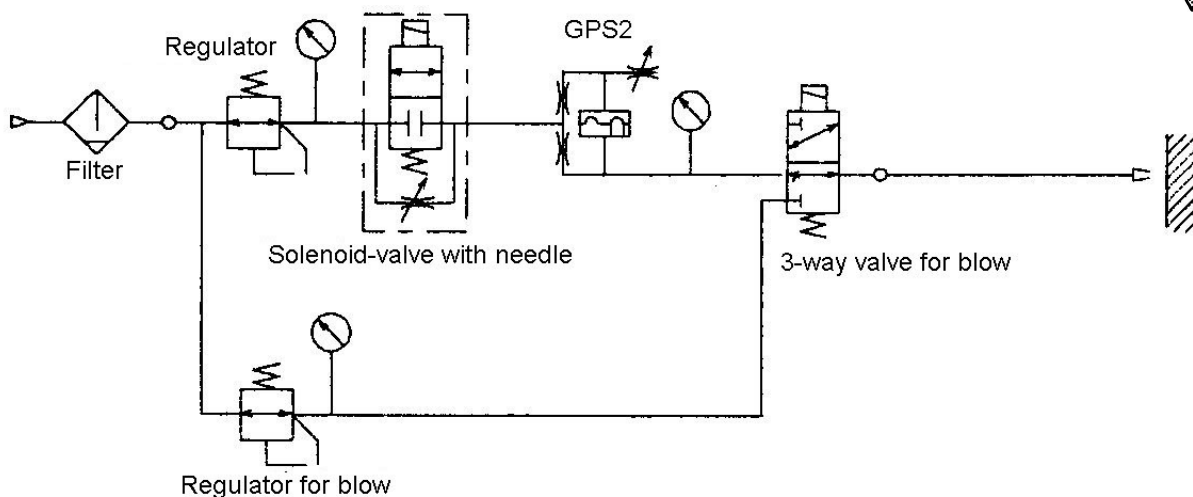

Figure 7 Circuit used with the gap switch includes a blow circuit
- If a circuit used with the gap switch includes a blow circuit as in Fig. 7, the minute flow of air will be supplied to the gap switch during the air blow operation as well, producing the ON signal. Design the control circuit in such a way that the Workpiece In Position signal will be rejected during the air blow operation.